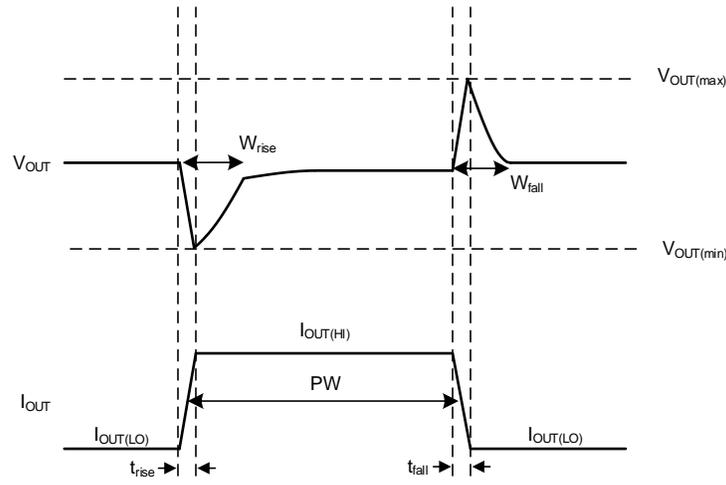

图 56. Simplified Load Transient Waveform
The transient response peaks ( $V_{OUT(max)}$  and  $V_{OUT(min)}$ ) are improved by using more output capacitance; however, doing so slows down the recovery time ( $W_{rise}$  and  $W_{fall}$ ). 图 56 shows these parameters during a load transient, with a given pulse duration (PW) and current levels ( $I_{OUT(LO)}$  and  $I_{OUT(HI)}$ ).